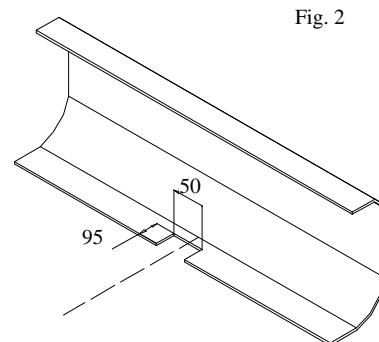
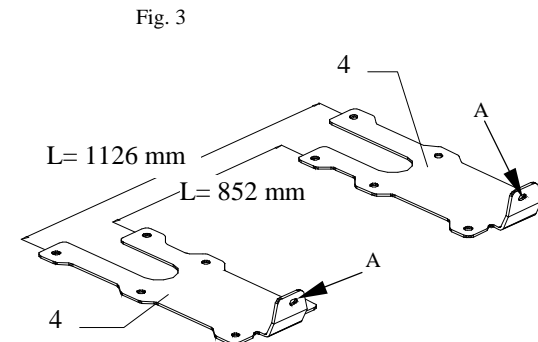

Fig. 2
Fig. 3
2. Cut out fragment of the bumper in bottom part, see fig. 2.
3. To factory prepared holes in rear part slip sleeves $\varnothing 25 \times \varnothing 15$, $L=25$ (pos. 10).
4. To the trunk put plates (pos. 4 and 5) in this way so holes A tally with holes with sleeves, see fig. 3.
6. Put plates again to the trunk, put bolts M10x35mm (pos. 14) to all drilled holes and bolts M10x50mm (pos. 13) through holes A, see fig. 3. On protruding bolts from below the car put adequately brackets (pos. 6, 7, 8, 9) as shown in the drawing and fix loosely.
7. To in this way prepared brackets (pos. 6, 7, 8, 9) fix main bar of the towing hitch (pos. 1) using bolts M10x35mm (pos. 14).
10. Fix tow-ball (pos. 2) and socket plate (pos. 3) using bolts M12x75mm (pos. 12) from accessories.